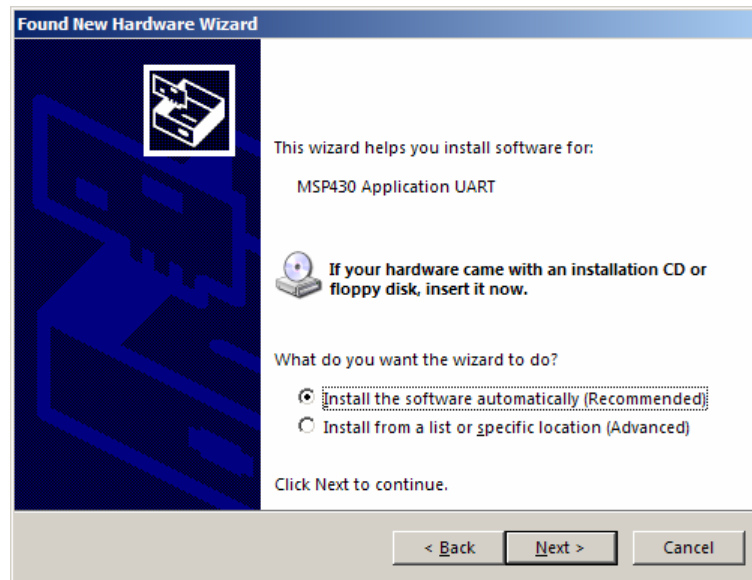

Figure 17. Windows XP Hardware Wizard
7. Select **Install the software automatically (Recommended)** (see Figure 17), if IAR KickStart R4.64 or higher has already been installed.